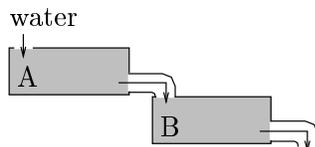

Figure 3. Cascade of two brine tanks.
- 19 Example (Brine Cascade)** Assume brine tanks A and B in Figure 3 have volumes 100 and 200 gallons, respectively. Let $A(t)$ and $B(t)$ denote the number of pounds of salt at time t , respectively, in tanks A and B. Pure water flows into tank A, brine flows out of tank A and into tank B, then brine flows out of tank B. All flows are at 4 gallons per minute. Given $A(0) = 40$ and $B(0) = 40$, find $A(t)$ and $B(t)$.